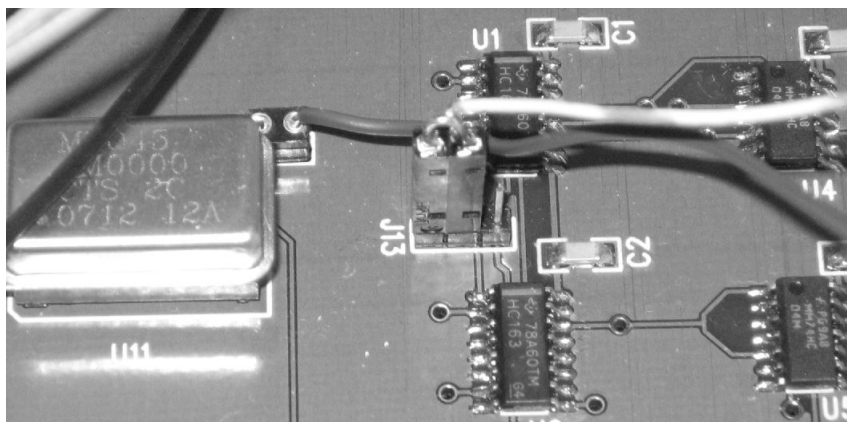

Figure 21: Photo illustrating the Multiplexer “Counter reset” output.
*Also, regarding this issue, see Figure 21 to see the corresponding jumper on the Multiplexer board. In the figure, the jumper is set to ignore the bit-comparison circuitry. This can be seen by the traces shown in the figure as well.*
The Demultiplexer board has a socket dedicated to receiving the “Counter Reset” command if needed (the bit-comparison circuitry is on the Multiplexer board), but the Multiplexer board has no socket dedicated to sending the command. To get around this oversight, please see Figure 21 to see how the designer solved the issue. Shown is a female header with the leads shorted together to one lead. This lead is run to the Demultiplexer socket labeled CLR\_CMD.